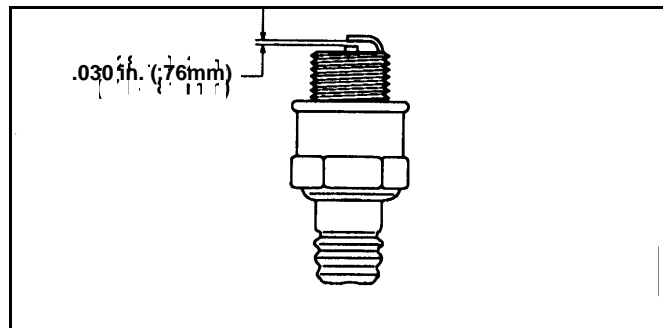

Figure 4
1. Set spark plug gap to .030 (.76 mm). (See Figure 4.)